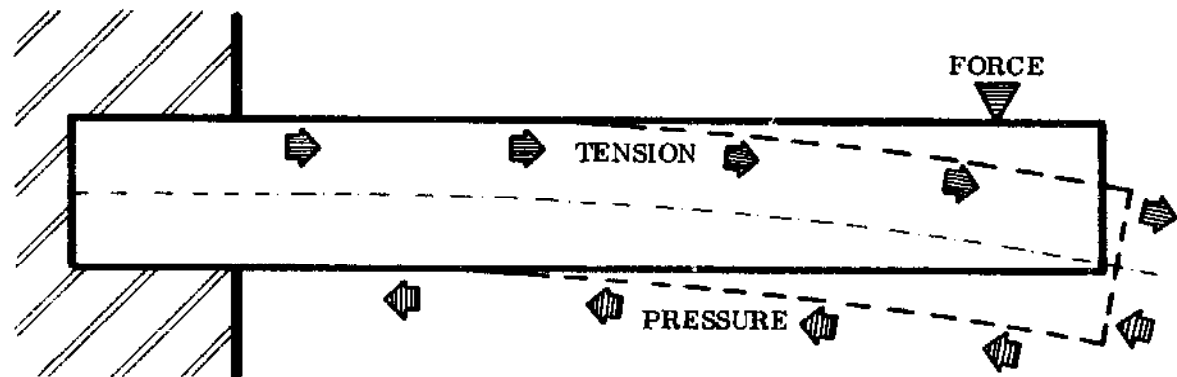
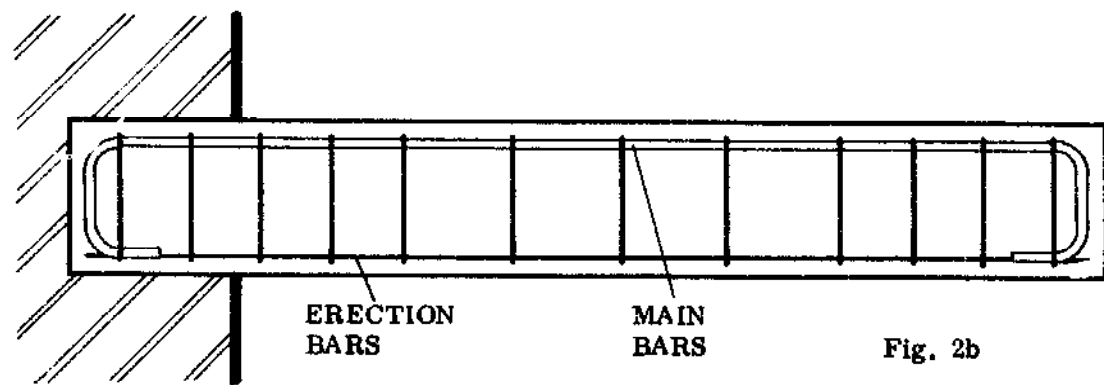
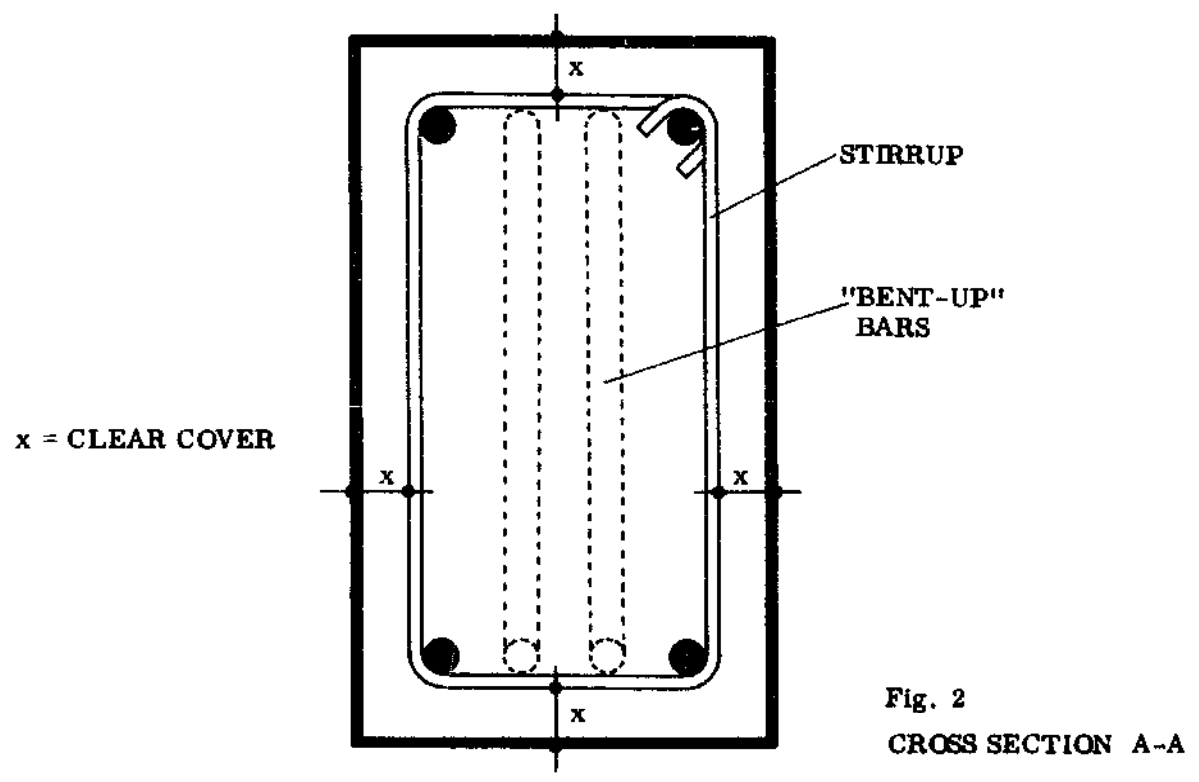

Fig. 2a
Fig. 2b
Fig. 2
- All circular bars with smooth surfaces must have U-shaped end hooks (see Figs. 2a & 3a). For ribbed bars and tentor bars L-shaped hooks are sufficient (Figs. 2b & 3b).
Fig. 2 shows another situation, where a beam is supported from one side only. This is called a cantilever beam. The unsupported end will tend to bend as shown. Here the main bars are on top to counteract the tension in the top surface (Fig. 2b).
The cross section in Fig. 2 shows how the clear cover is measured from the outside of the stirrups to the outside face of the concrete. In other words, the clear cover or concrete cover is the distance between the concrete surface and the nearest reinforcement bar, regardless of the function of the bar.